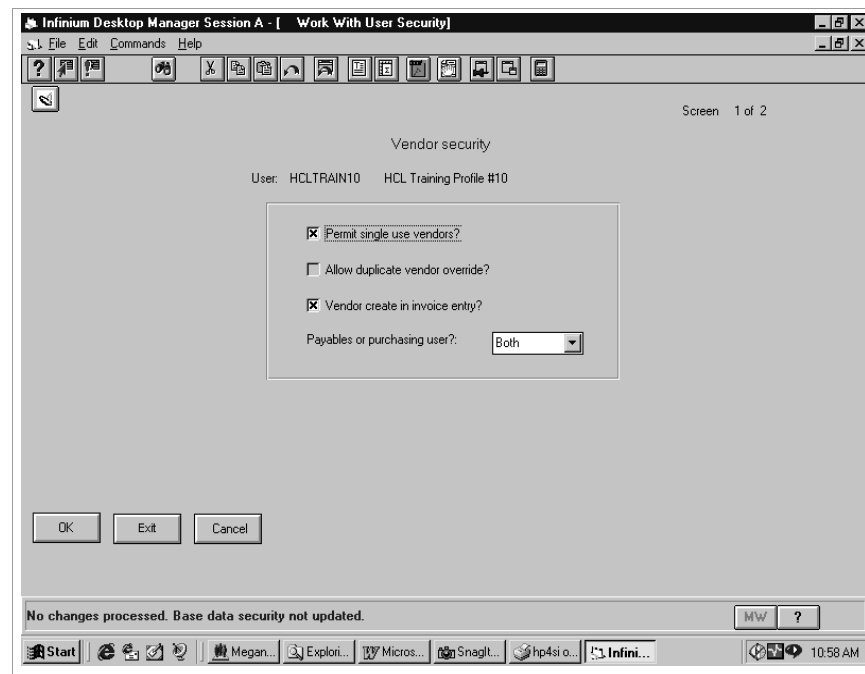

Figure 3-18: Work With User Security vendor security screen 1
- 7 Press Enter. The system updates the base data security information and continues to the Work With User Security screen similar to Figure 3-18.